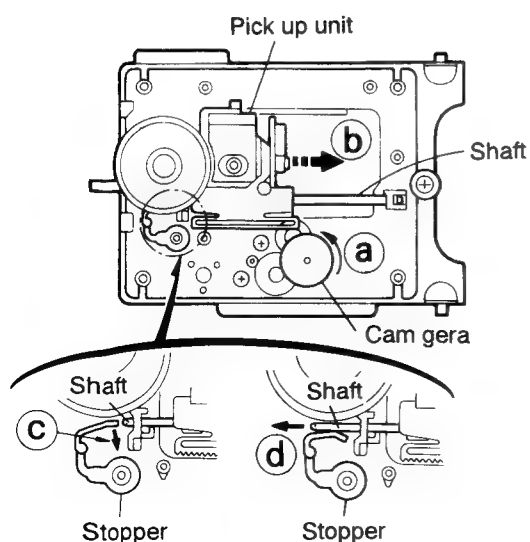

Fig. 5-42
■ Removing the CD pickup unit (See Fig. 5-42)
1. Move the cam gear in the arrow direction ①. Then, the CD pickup unit will be moved in the arrow direction ②.
2. According to the above step, shift the CD pickup unit to the center position (Fig. 5-42).
3. While pressing the stopper retaining the shaft in the arrow direction ③, pull out the shaft in the arrow direction ④ (See Fig. 5-42).